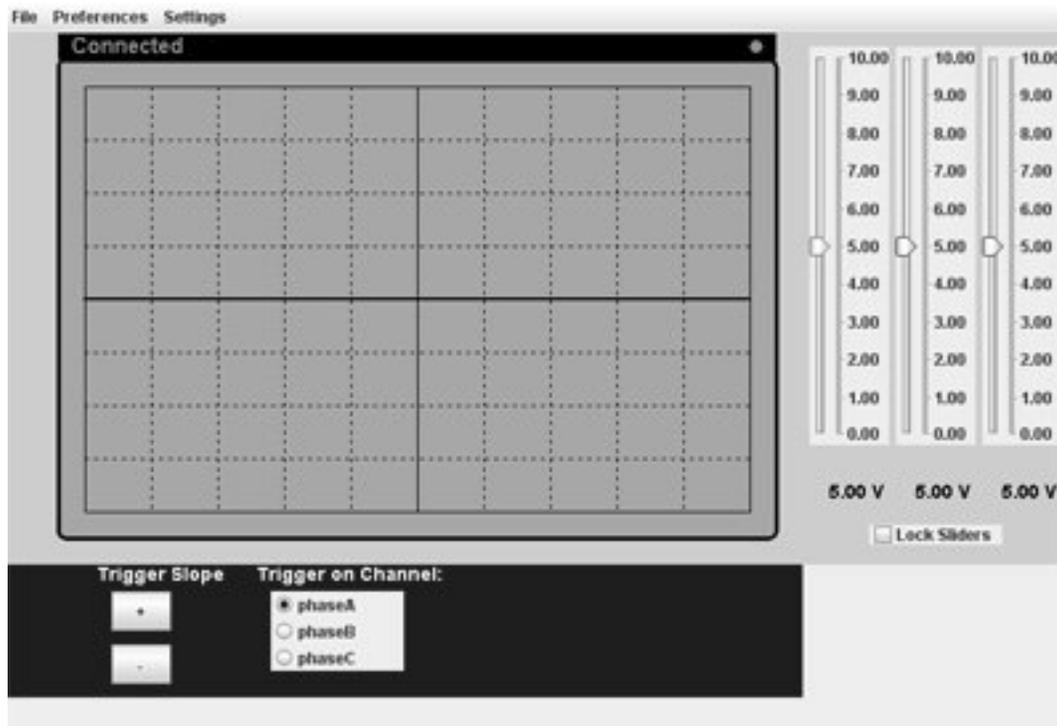

Figure 1
- 6) After a few seconds, the GUI shown in Figure 1 will be displayed.